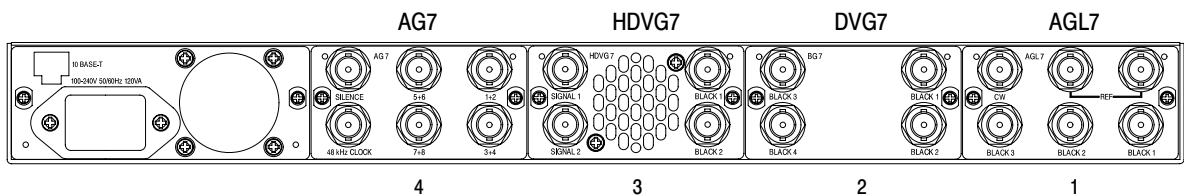

Figure 1: TG700 slot numbering
2. Select the slot you will use to install the module. Table 1 lists the slot restrictions. Figure 1 shows a sample configuration with slot numbers. Note that the AGL7 module must be in slot 1.